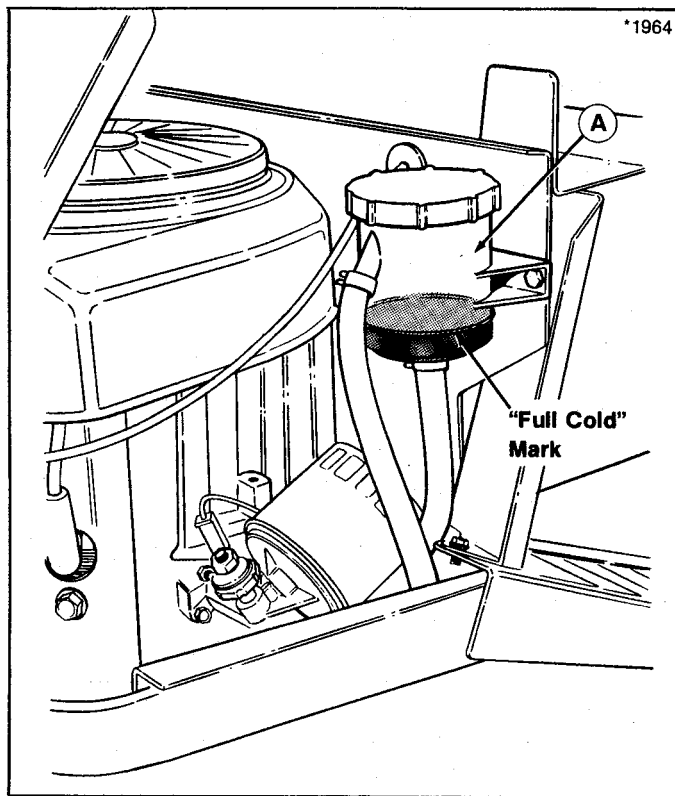

Figure 15. Hydrostatic Reservoir
2. The fluid level is visible in the reservoir (figure 15) without removing cap. The level should be at FULL COLD mark. If not, go to step 3.
3. Clean the area around the reservoir (A, figure 15) and remove the reservoir cap. Add 30W premium grade nondetergent oil.